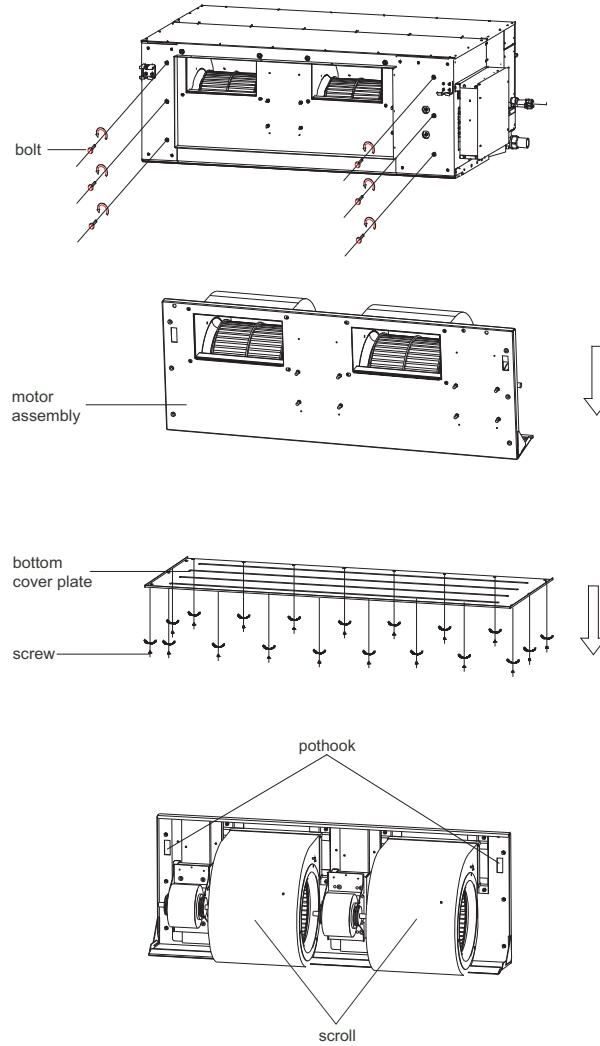

Fig. 44 —Fan disassembly (072-096)
1. Remove the bottom cover plate (see Fig. 44).